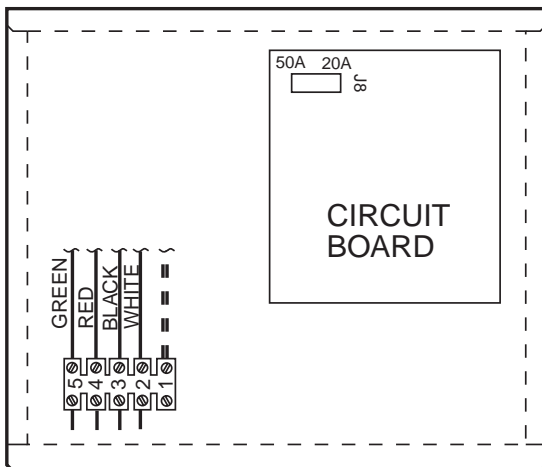

FIGURE 1
5. Install 240VAC, 4-wire power cord in accordance with local code requirements. Insert the wires into the bottom side of the terminal block and tighten the screws. Refer to Figure 1.
6. Loosen the screw on the top side of the terminal block. Move the red wire from position 1 to position 4. Tighten the screws. Refer to Figure 1.
7. Move the jumper at circuit board location J8 from the 20A position to the 50A position. Refer to Figures 1 and 2.